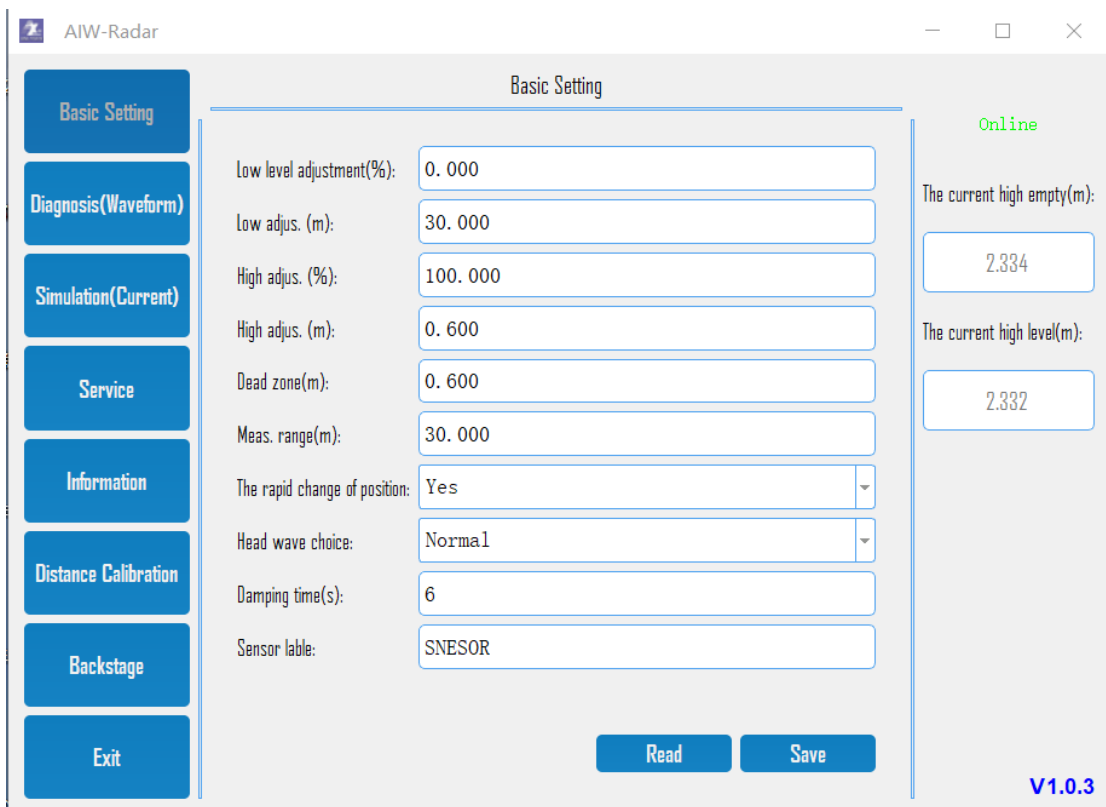

Figure 4.
4. When the handshake between the software and the device is successful, it will automatically enter the main interface, which defaults to show the "basic settings" interface. The current distance of the device will be displayed on the right side of the main interface. As shown in Figure 4. Note: **If the current connection is 485 devices, the software will automatically shield "current" related functions.**